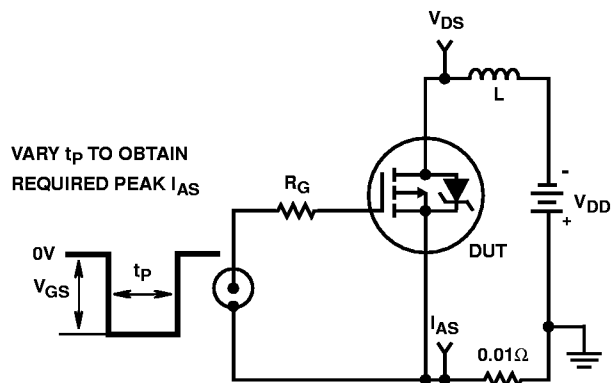

FIGURE 15. UNCLAMPED ENERGY TEST CIRCUIT
- $V_{DD} = 25\text{V}$, starting $T_J = 25^\circ\text{C}$, $L = 4\text{mH}$, $R_G = 25\Omega$, peak $I_{AS} = 19\text{A}$. (Figures 15, 16).